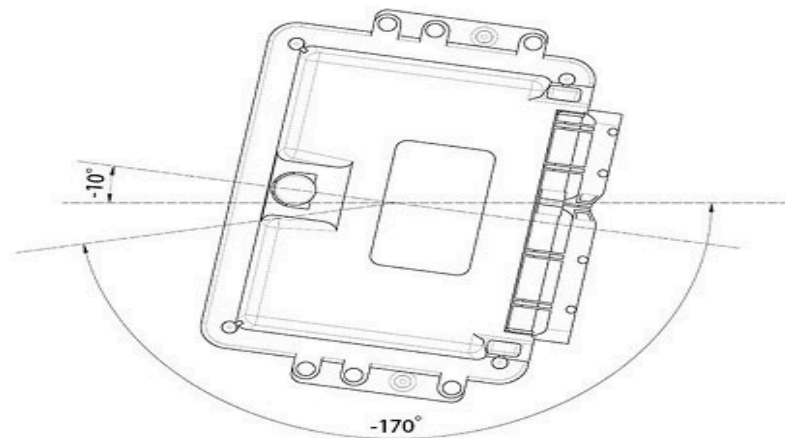

Figure 14 Vertical Installation Angle
7. ZCU should be installed in the horizontal and vertical position according to the connector downwards and maintain a certain angle to prevent water from entering the connector. In the horizontal direction, the recommended installation angle is -170° to -10° , as shown in Figure 13 below. In the vertical direction, the recommended installation angle is $-170^\circ \sim -10^\circ$, as shown in Figure 14 below.